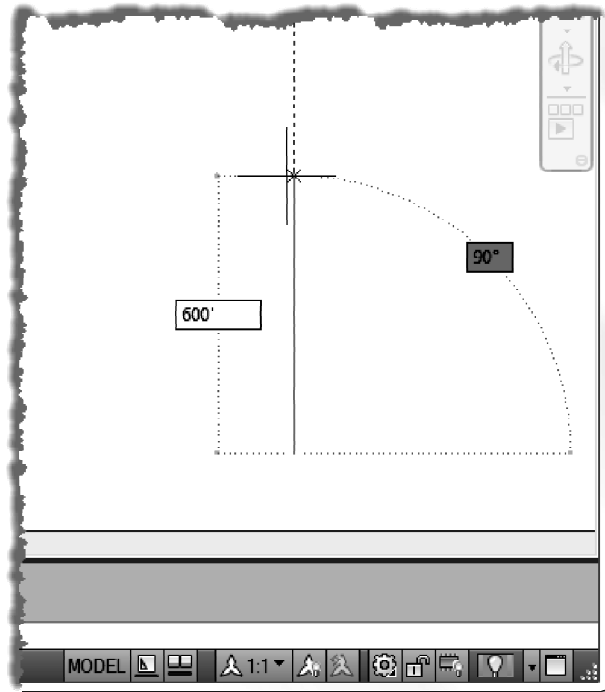

FIGURE 2-1.11 Drawing another line with the help of Polar Tracking
- Move the crosshairs (i.e., mouse) straight up from your first point so that *Polar Tracking* activates (Figure 2-1.11).